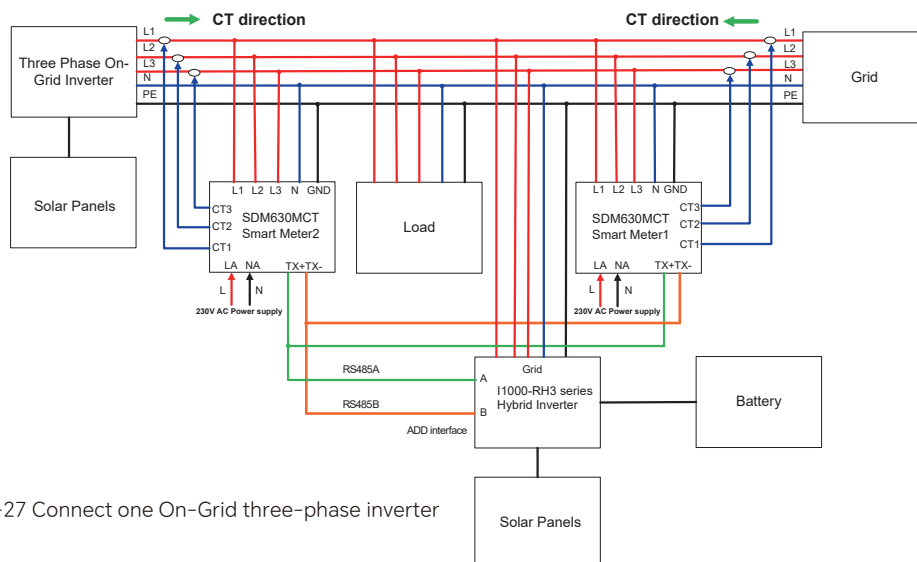

Figure 5-27 Connect one On-Grid three-phase inverter
- 3) Connect one On-Grid three-phase inverter(Figure 5-27): The local address needs to be set as "001" on the inverter screen, and meter1 address set as "001", meter2 address set as "002". The address of meter1 itself needs to be set to "001", and meter2 needs to be set to "002".